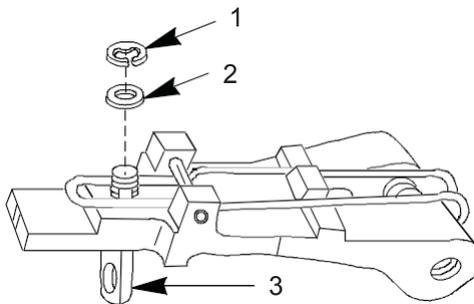

Figure 26. Retaining Clip, Washer, Peep Sight.
37. Remove retaining clip (Figure 26, Item 1) and discard. Separate washer (Figure 26, Item 2) from peep sight (Figure 26, Item 3) and visually inspect for bends. Replace if damaged.